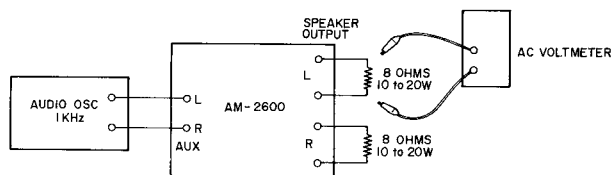

Fig. 6 Level Meter Adjustment
- a) Connect instruments as shown in Fig. 6.